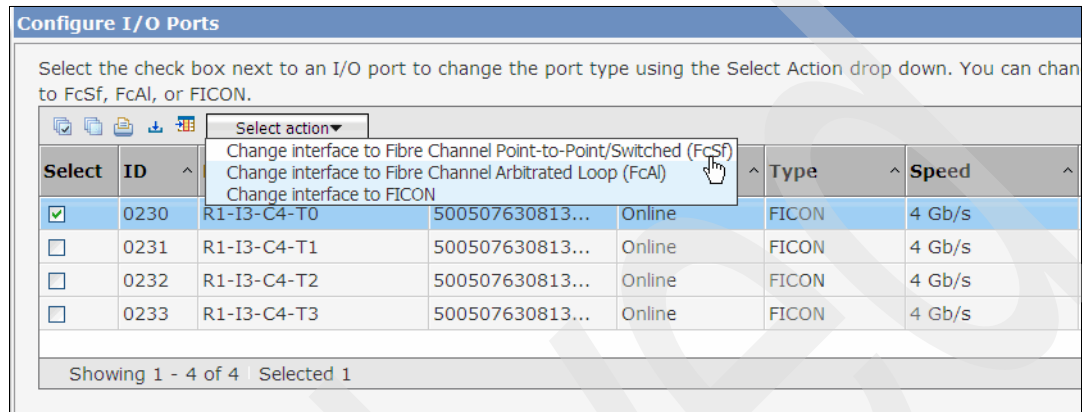

Figure 13-48 Select I/O port format
4. The Configure I/O Port window opens, as shown in Figure 13-48.